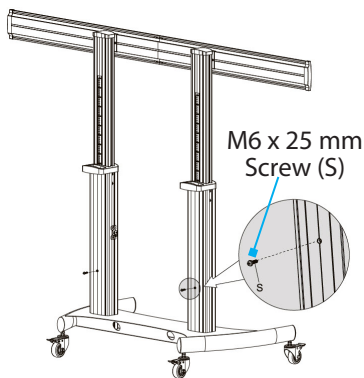

Figure 5
11. Insert four **M8 x 25 mm Hex Head Screws (X)** through the **Base (A)** and into the **Left Column (E)**.
12. Tighten all four **M8 x 25 mm Hex Head Screws (X)**, using the **Hex Key (B1)**.
13. Repeat steps 11-12 for the **Right Column (F)**.
15. Insert one **M6 x 25 mm Hex Head Screw (S)** into the back of the **Left Column (E)**. (Figure 5)